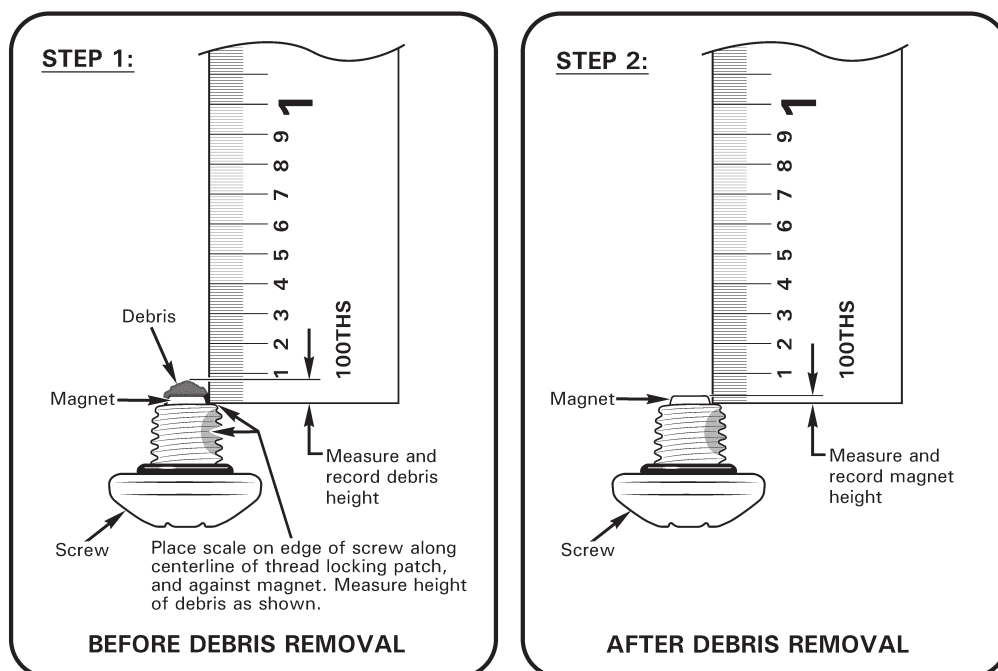

Figure 2: B569-1 Magnetic Plug Debris Measurement
5. Measure and record combined debris and magnet height using a 0.01 inch resolution scale per Figure 2 Step 1.
7. Measure and record magnet height using a 0.01 inch resolution scale per Figure 2 Step 2.